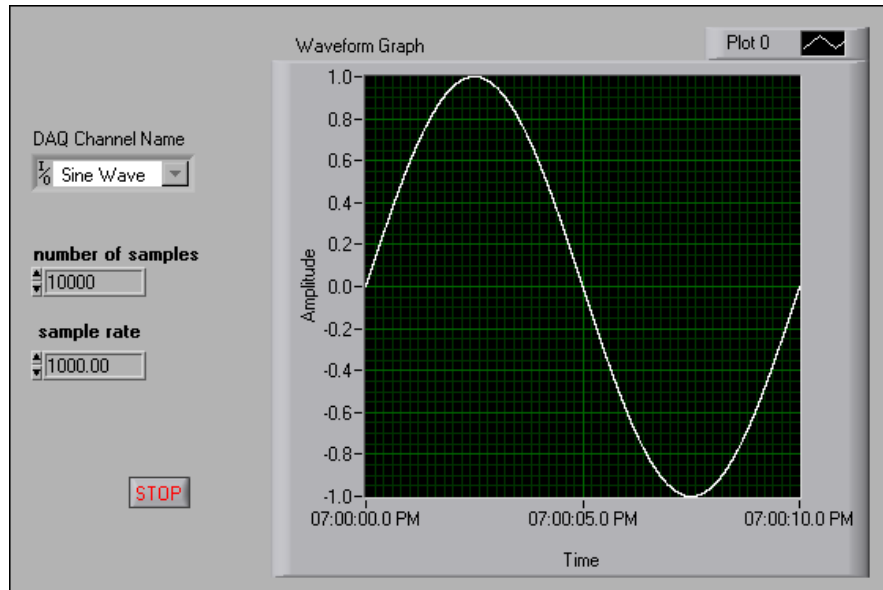

Figure 5-2. Waveform Graph
The VI in Figure 5-2 continuously acquires 10,000 scans from a DAQ device at a sample rate of 1,000 scans/second, which began at 7:00 p.m. The graph plots the waveform data (Y) on the graph. The start time (t_0) is 7:00:00 p.m. and is the first point on the x-axis. The delta t (dt) of the waveform is 1.00 ms ($1,000 \text{ scans/second} = 1 \text{ ms/scan}$), so the 10,000 scans are distributed over 10 seconds with the last data value plotted at 7:00:10 p.m.